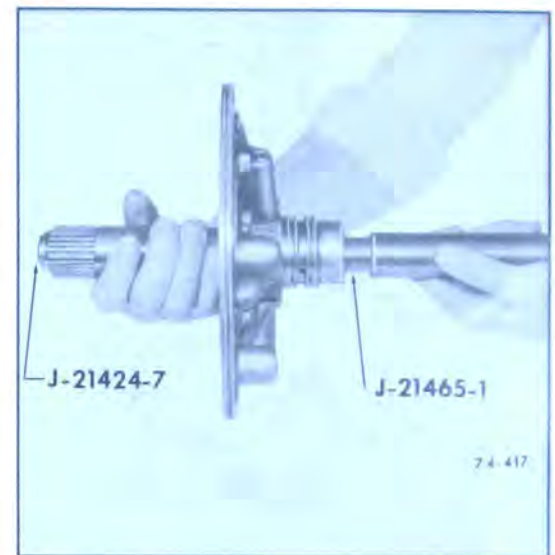

Figure 74-188
14. Check stator shaft bushing for nicks, severe scoring or wear. If bushing replacement is necessary remove as follows: Assemble Bushing Remover J-21424-7 to Extension J-21465-13. Assemble this assembly to Drive Handle J-8092. Grasp stator shaft with hand using other hand and assembled tools drive out bushing. See Figure 74-188.